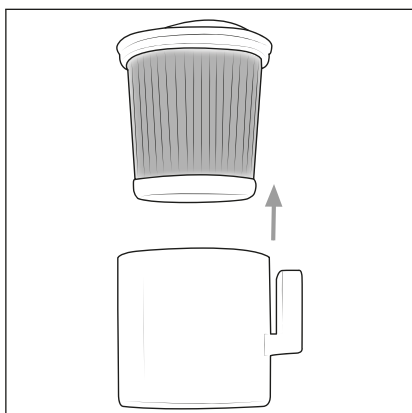

Fig. 17
- 4) Once you have removed the dust container **7**, you can remove the HEPA filter container **5** from the appliance. Remove the HEPA filter **4** from the HEPA filter container **5** by reaching into the opening of the HEPA filter **4** and pulling it out of the HEPA filter container **5** (see Fig. 17).